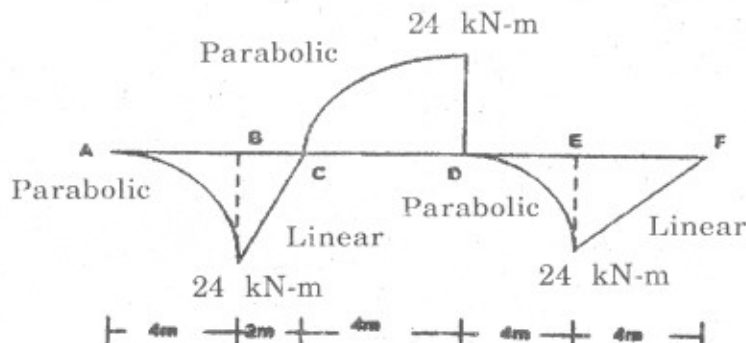

Fig. 6
- (b) Beam ABCD is supported at B and E and has overhangs AB and EF. The BMD for the beam is as shown in Fig. 6. Draw the shear force diagram and loading diagram. [9]